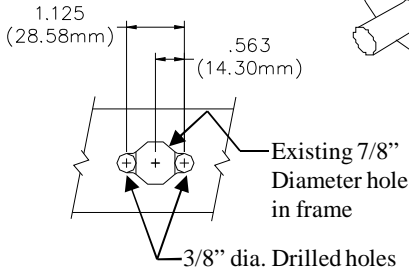

Figure 2
See figure 2
- Use 3/8" drill and file to modify forwardmost hole in each frame rail, as shown in Figure 2, to allow fishwiring of spacers and carriage bolts.